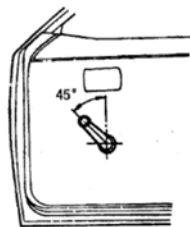

Fig. 4.1-12
5) Assemble glass regulator handle, to make an angle of  $45^\circ$  with vertical plane when the glass is closed fully, as shown in Fig. 4.1-12.